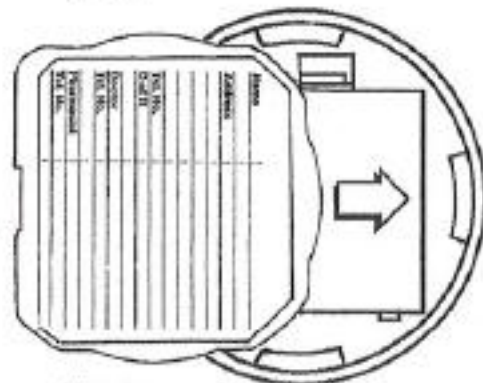

Figure 5
4. Complete the pharmacy label carrier, remove the reposable adhesive pad cover and stick the pharmacy label carrier to the battery case cover (to comply with RPSGB guidelines). Slide the plastic cover into position to protect it. (see figure 5).